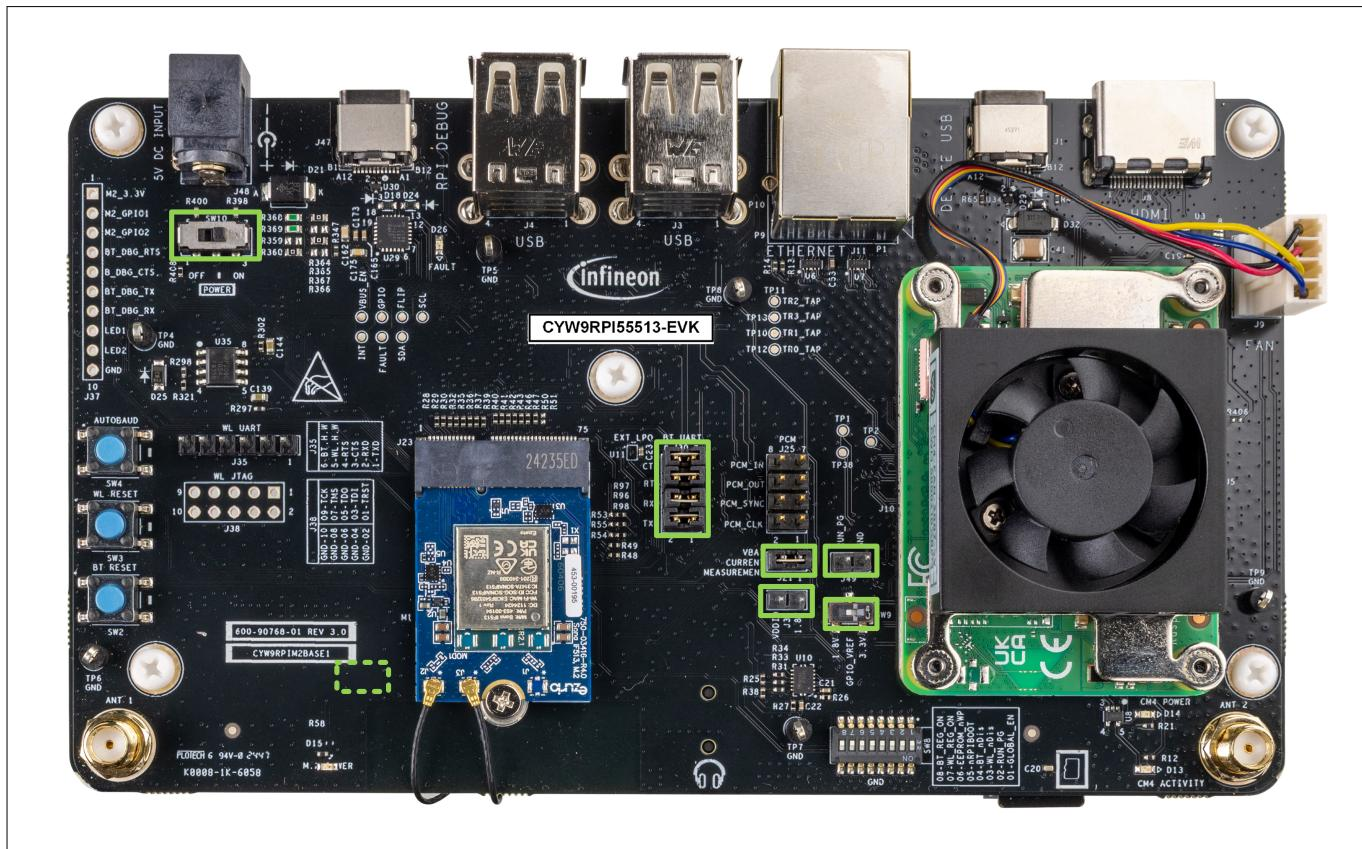

Figure 2 CYW9RPI55513-EVK default jumper and switch setting
Before connecting the kit to a PC, ensure that all jumpers and switches on the baseboard are in their default configuration as shown in Figure 2 and specified in Table 4 to Table 8.
2. Ensure the jumper and switch settings on the board are configured as shown in Figure 2 and specified in Table 3 to Table 8
2. Ensure that the jumper and switch settings on the board are configured as shown in Figure 2 and specified in Table 3 to Table 8